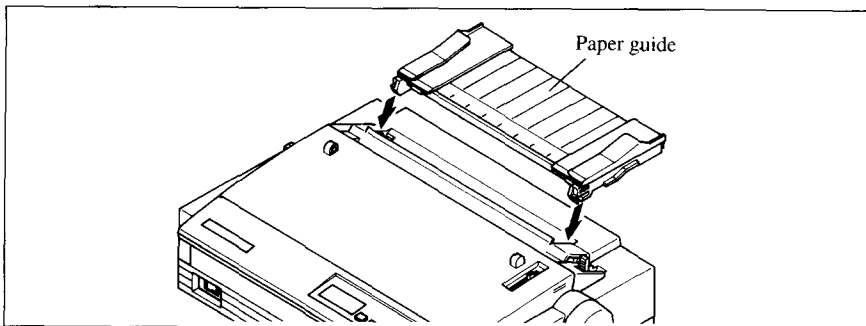

Figure 2-10. Installing the paper guide horizontally.
2. Place the paper guide horizontally, as shown in Figure 2-10.